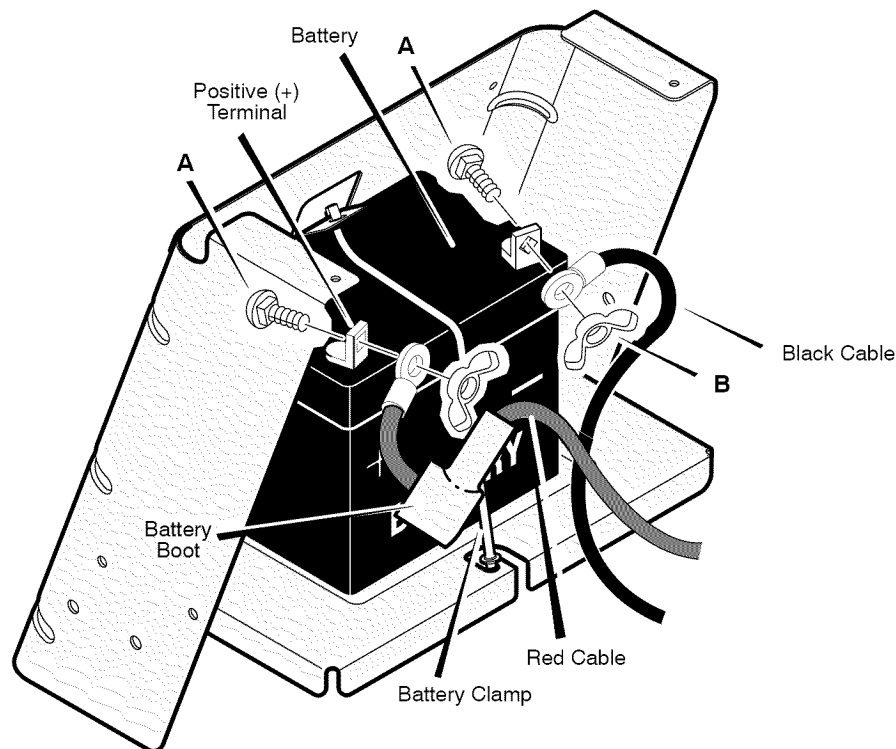

Figure 18
1. Disconnect the **black cable** from the negative (-) terminal (Figure 18).